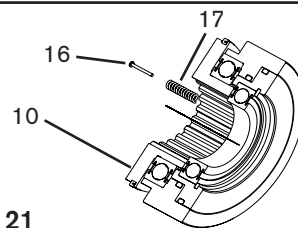

FIGURE 21
4. Install new Compression Springs (Items 17) and Spring Stiffener Pins (Item 16) into the Drive Ring (Item 10) (See Figure 21).